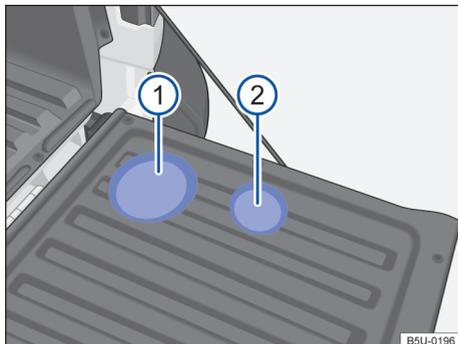

Fig. 103 In the tailgate lining: ① bottle holder and ② drink holders.
Open the tailgate to use the bottle holder → Fig. 103 ① and drink holders ②.